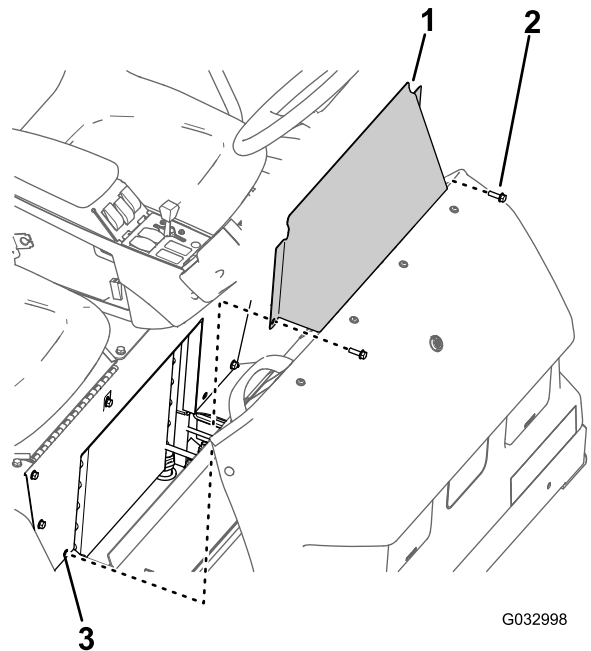

Figure 61
1. Remove the 2 flanged-head bolts that secure the seat-base-access panel to the seat base (Figure 61).
2. Remove the seat-base-access panel from the machine (Figure 61).
1. Align the holes in the seat-base-access panel with the holes in the seat base (Figure 61).
2. Assemble the seat-base-access panel to the seat base with the 2 flanged-head bolts (Figure 61) that you removed in step 1 in Removing the Seat-Base-Access Panel (page 51).